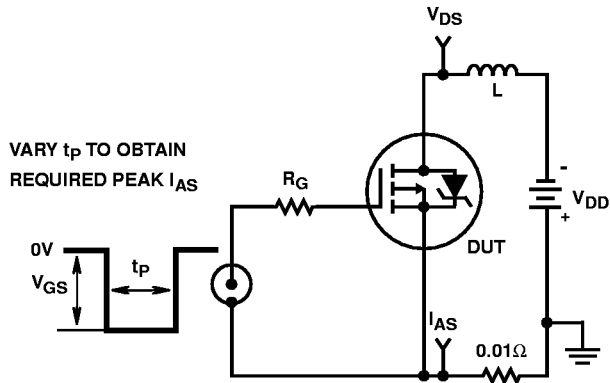

FIGURE 15. UNCLAMPED ENERGY TEST CIRCUIT
- $V_{DD} = 25\text{V}$ , starting  $T_J = 25^\circ\text{C}$ ,  $L = 4\text{mH}$ ,  $R_G = 25\Omega$ , peak  $I_{AS} = 19\text{A}$ . (Figures 15, 16).